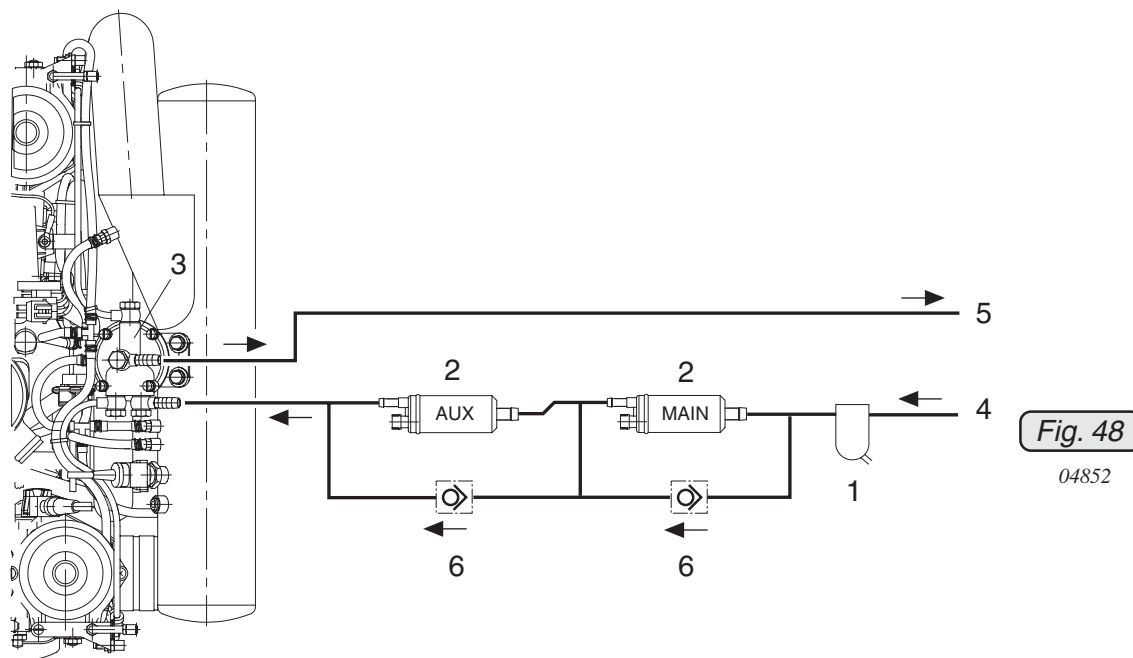
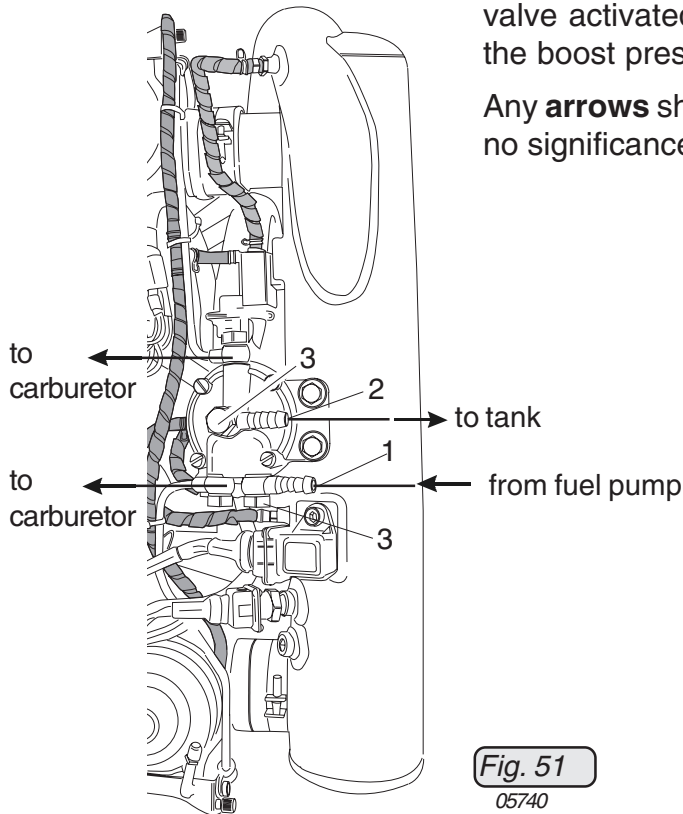

Fig. 48
Fig. 51
See Fig. 48.
Only the following connections per Fig. 48 have to be established:
- **Fuel lines:** See Fig. 48.
- **Fuel filter:** See Fig. 48.
See outline of fuel pump (2), Fig. 48, 49 and 50.
See outline of fuel pressure control (3), Fig. 48 and Fig. 51.